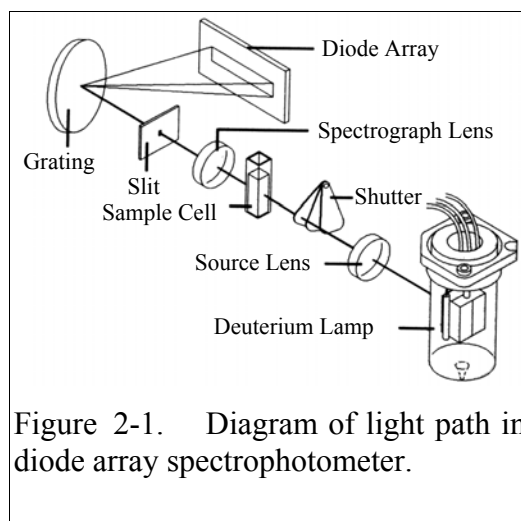

Figure 2-1. Diagram of light path in diode array spectrophotometer.
The instrument you will use to measure absorbance is a Hewlett Packard (HP) model 8452A diode array spectrophotometer. The diode array spectrophotometer uses a broad-spectrum source of incident light from a deuterium lamp. The light passes through the sample, 1 cm path length, and is split by a grating into a spectrum of light that is measured by an array of diodes. Each diode measures a bandwidth of 2 nm with 316 diodes covering the range from 190 nm to 820 nm. The wavelengths of light and their colors are given in Table 2-1. The light path for the diode array spectrophotometer is shown in Figure 2-1.